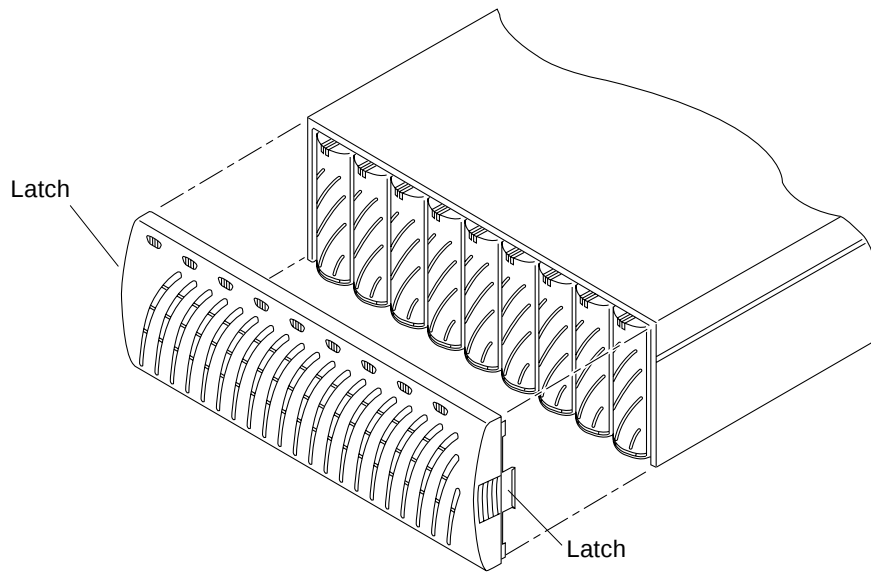

FIGURE 5-2 Removing the Front Panel
2. **Remove the front panel by pressing in on the side latches and pulling the cover forward.** See FIGURE 5-2.